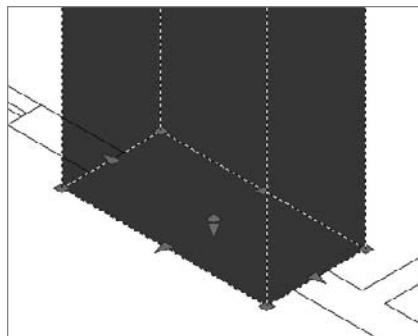

FIGURE 16.17 The base of the door after dragging the grips
10. Drag the rear triangular grip backward, and position it off the inside of the exterior wall. The base of the door should look similar to Figure 16.17.